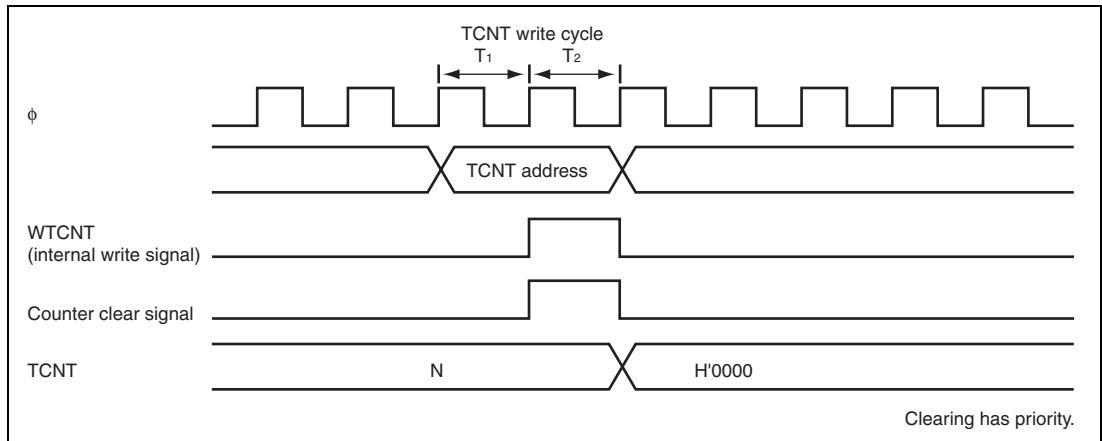

Figure 12.52 Contention between TCNT Write and Clear Operations
- Contention between TCNT Write and Clear Operations: If a counter clear signal is generated in the  $T_2$  state of a TCNT write cycle, TCNT clearing has priority and the TCNT write is not performed. Figure 12.52 shows the timing in this case.